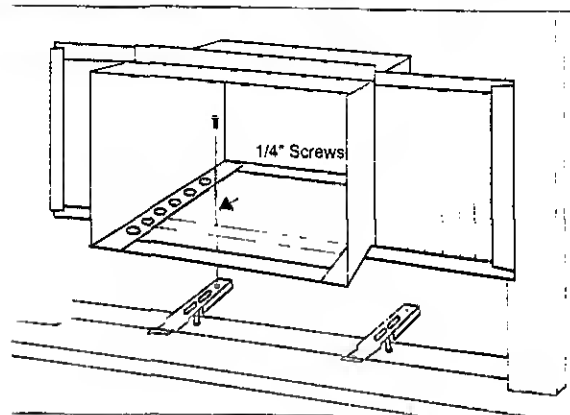

Fig 17
A Align one hole in the bottom of the cabinet with one hole in the bracket assembly. Secure the cabinet to the bracket using (3) 1/4" screws provided. Repeat the same procedure on the opposite side of the cabinet. See (Fig. 17)